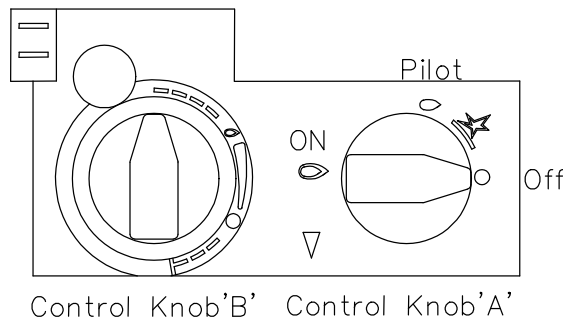

FIGURE 7
- d) If the appliance is to be left unattended for a long period (more than a weekend) Control Knob 'A' (see Figure 7) should be turned to the 'Pilot' or 'Off' positions. This to ensure that the receiver cannot respond to extraneous sound waves.
## **Lighting Procedure.**(See Figure 7)